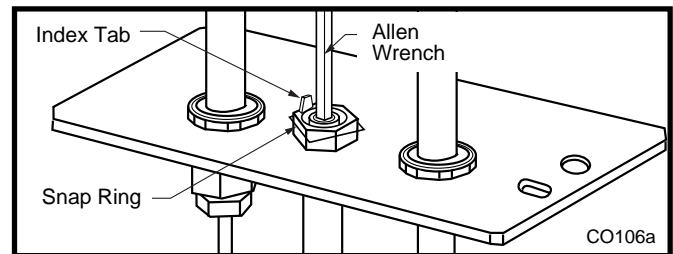

Fig. 62 Remove pilot orifice.
8. Remove pilot orifice with allen wrench. (Fig. 62)